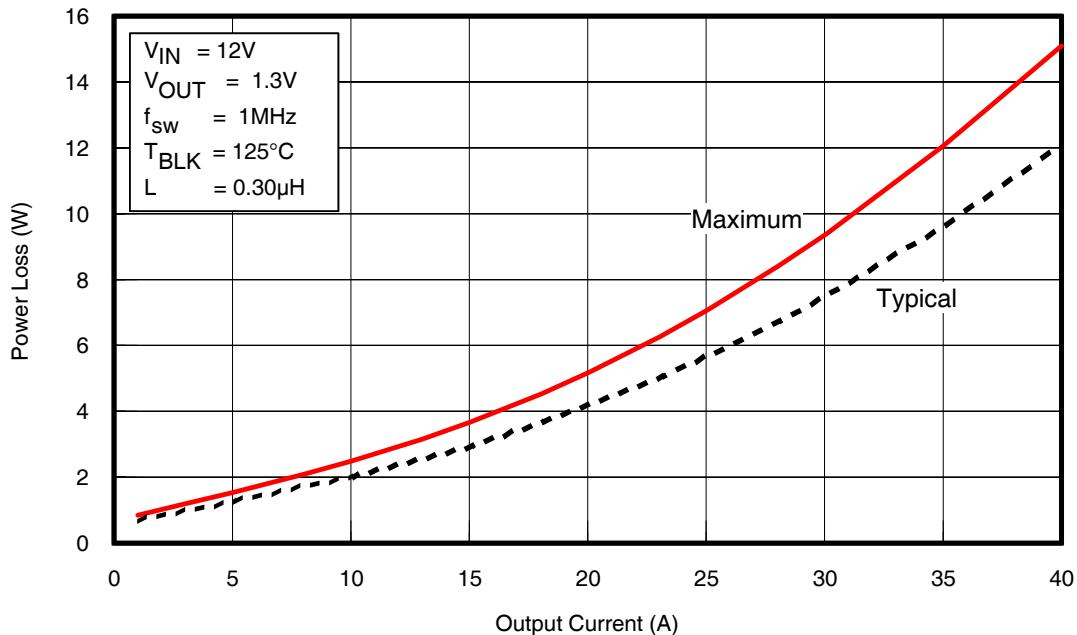
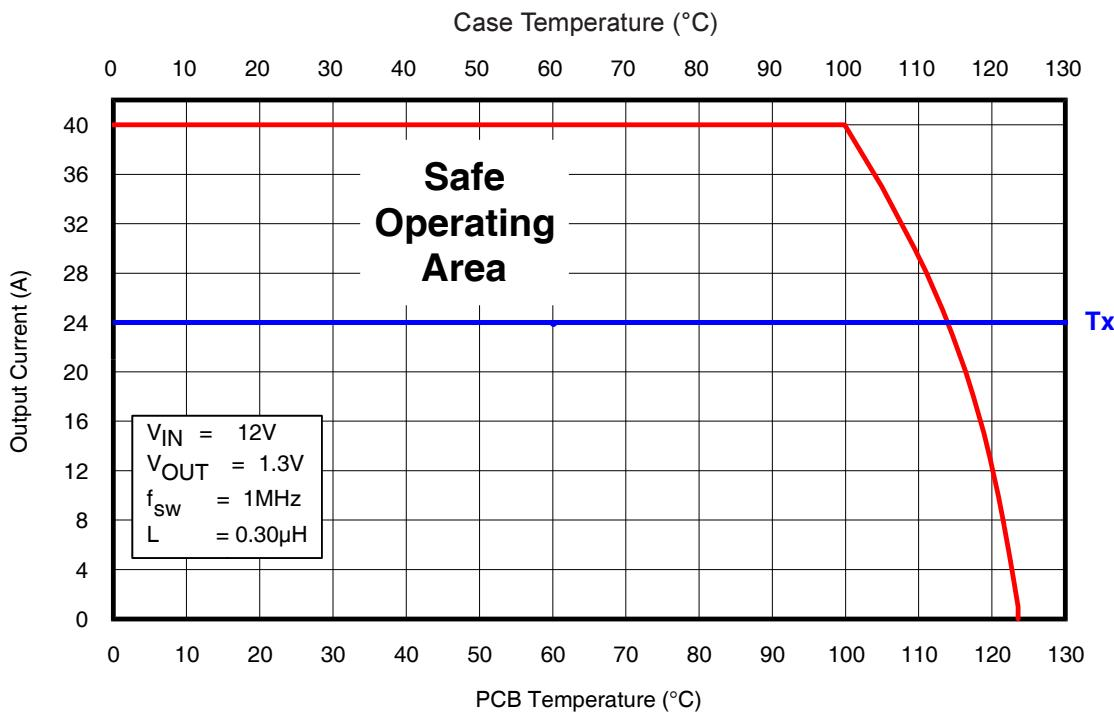
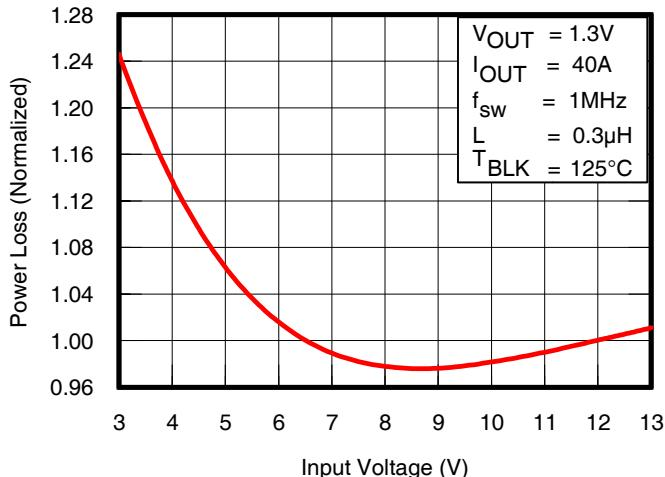

Fig. 1: Power Loss vs. Current
Fig. 2: Safe Operating Area (SOA) vs. T_{PCB} & T_{CASE}
Fig. 3: Normalized Power Loss vs. V_{IN}
To calculate power loss for a given set of operating conditions, the following procedure should be followed: Determine the maximum current for each iP2003APbF and obtain the maximum power loss from Fig 1. Use the curves in Figs. 3, 4, 5 and 6 to obtain normalized power loss values that match the operating conditions in the application. The maximum power loss under the operating conditions is then the product of the power loss from Fig. 1 and the normalized values.
To calculate the SOA for a given set of operating conditions, the following procedure should be followed: Determine the maximum PCB temperature and Case temperature at the maximum operating current of each iP2003APbF. Obtain the SOA temperature adjustments that match the operating conditions in the application from Figs. 3, 4, 5 and 6. Then, add the sum of the SOA temperature adjustments to the T_x axis intercept in Fig 2.
- (Fig. 1) Maximum power loss = 15W
- (Fig. 3) Normalized power loss for input voltage ≈ 0.98
- (Fig. 3) SOA Temperature Adjustment for input voltage $\approx -0.5^{\circ}\text{C}$